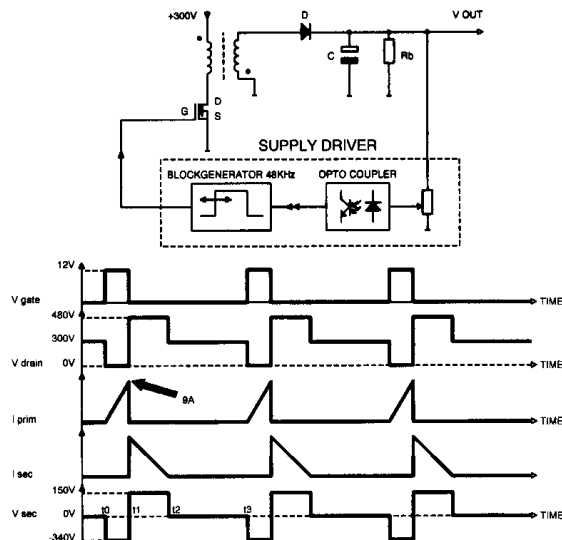

Fig. 8.1
8.2.2 The main supply (FFS) [L2] (Fig. 8.1)